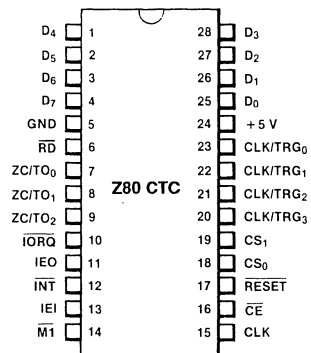

Figure 2a. Pin Assignments
**The Z80 CTC requires a single +5%V power supply and the standard Z80 single-phase system clock. It is packaged in 28-pin DIPs, a 44-pin plastic chip carrier, and a 44-pin Quad Flat Pack. (Figures 2a, 2b, and 2c). Note that the QFP package is only available for CMOS versions.**